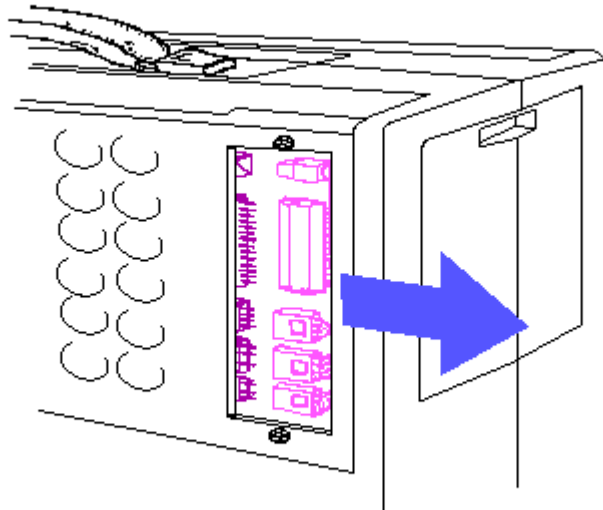

Figure 7.15-1. Removing the System Board Connectors
1. Complete the system board removal procedure (see Section 7.10 and Figure 7.15-1).